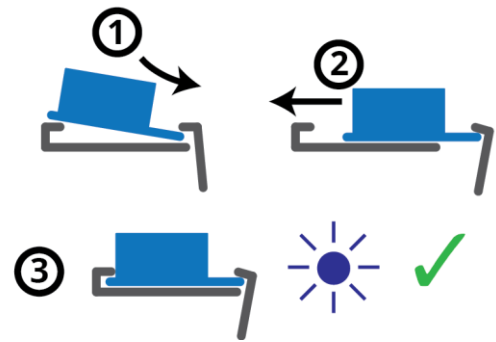

Figure 4. Guidelines for cartridge insertion (Hardware version 1 or higher).
- ❖ The cartridge must sit flat on the bottom of the holder. Refer to Figure 4.